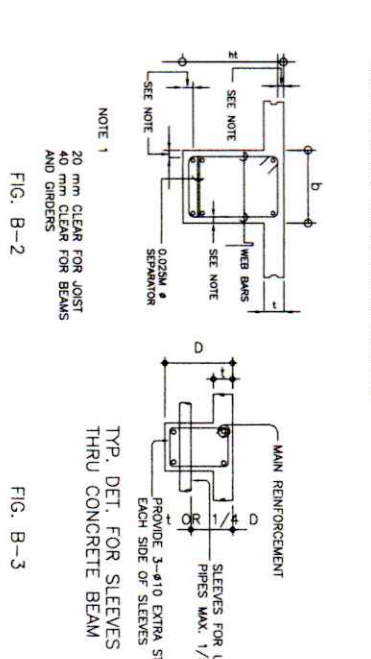

FIG. B-2
- IF THERE ARE TWO OR MORE LAYERS OF REINFORCING BARS, USE 25mm BAR SEPARATORS SPACED AT 1.0M ON CENTER, IN NO CASE SHALL THERE BE LESS THAN TWO (2) SEPARATORS BETWEEN TWO LAYERS OF BARS.
- MINIMUM CONCRETE PROTECTION FOR REINFORCING BARS OR STEEL SHAPES SHALL BE AS SHOWN IN FIG. B-2 UNLESS SPECIFIED ELSEWHERE.